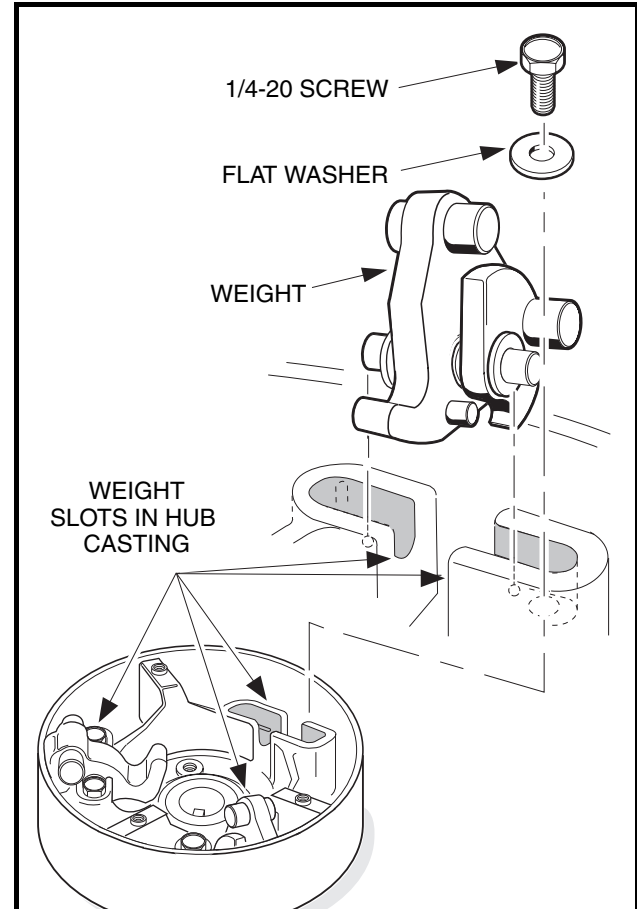

Figure 17-9 Weight Position
5. Remove the clutch weights (Figure 17-9, Page 17-8):
- 5.1. Remove the screws and flat washers attaching the weights as shown (Figure 17-9, Page 17-8).
11. Install the weight assemblies into the slots in the hub casting (**Figure 17-9, Page 17-8**). Make sure the mounting pin protrudes an equal amount on each side of the weights when the assemblies are in position (**Figure 17-14, Page 17-10**).
15. Install a no. 10-24 button retaining screw with flat washer through each button and into the rib. Tighten the screws to 34 in-lb (3.8 N·m) (**Figure 17-9, Page 17-8**).